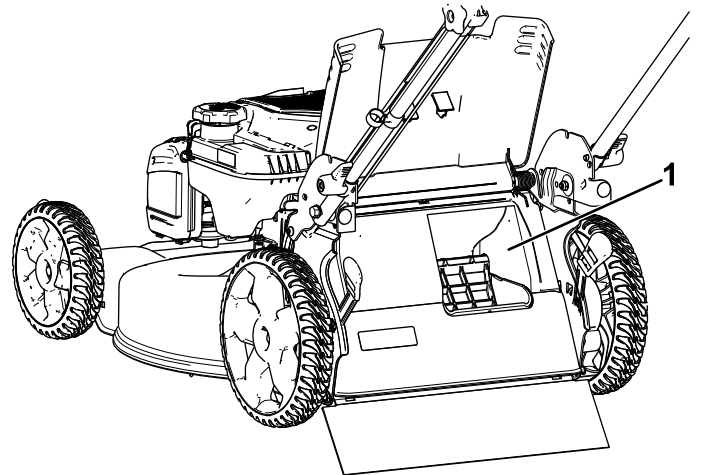

Figure 16
**Important:** For proper operation, shut off the engine, wait for all moving parts to stop, and then remove any grass clippings and debris from the bag-on-demand door and the surrounding opening (Figure 16) before you move the bag-on-demand lever from 1 position to another.